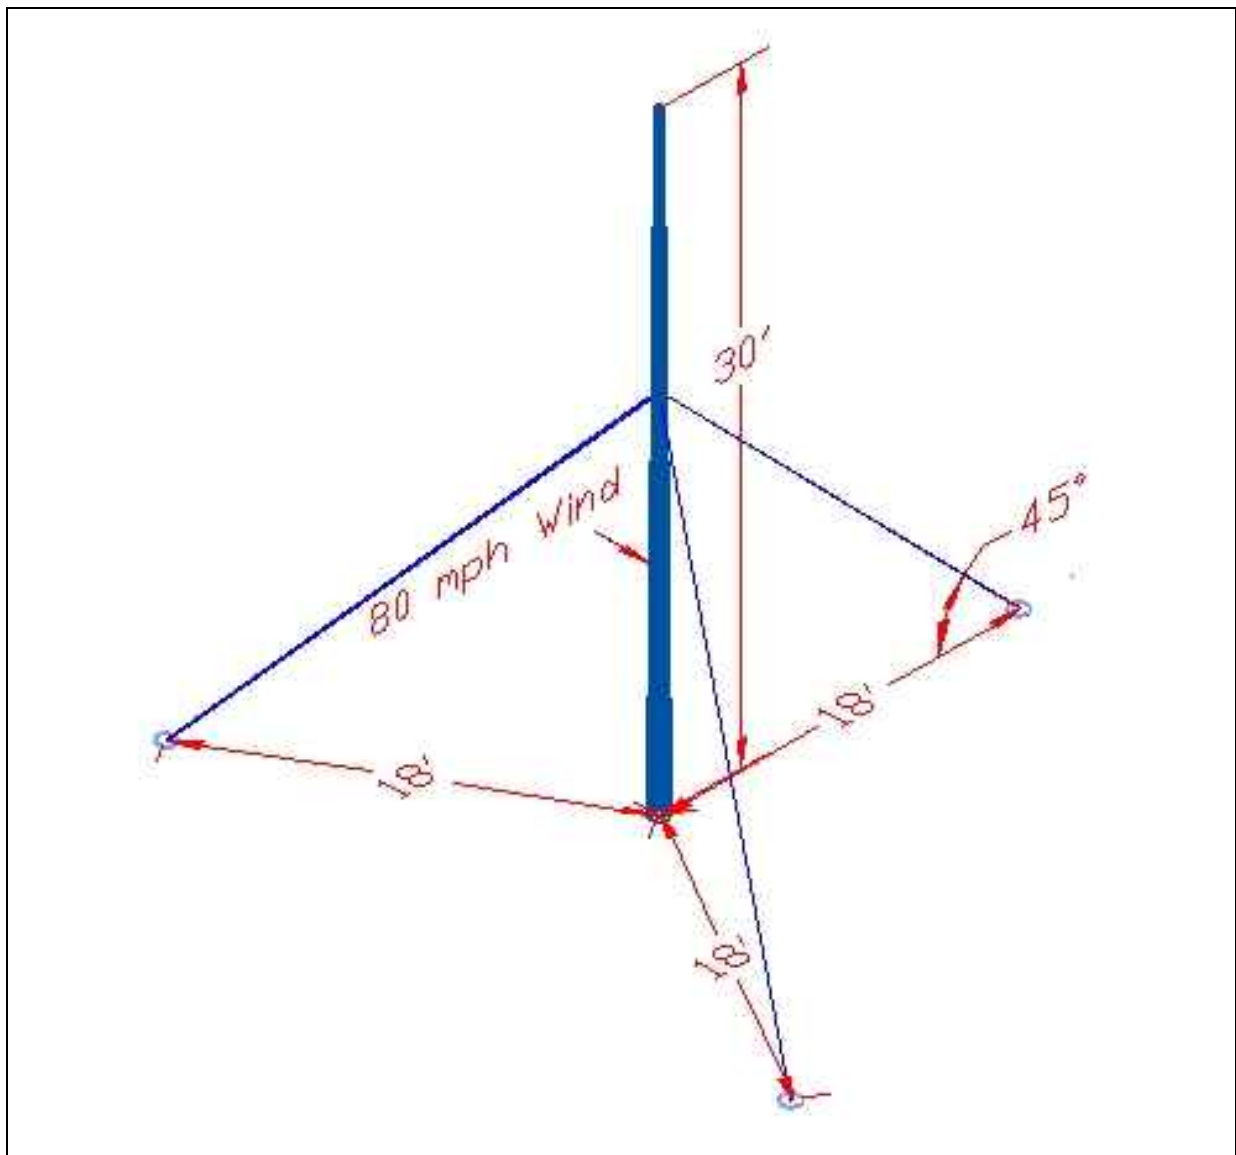

Figure 7.13 – Compute the Wind Load and Forces and a Pole
* World Class CAD Challenge 10-15 * - Draw a 30 foot tall pole with a 12 inch diameter base. The hollow pole has a one inch thick wall at the bottom. The outside diameter extrudes at 0.5° and the inside diameter extrudes at 0.4° . Place an 80 mph wind load as shown in figure 7.13. The tension in cable F3 measures at 500 pounds.